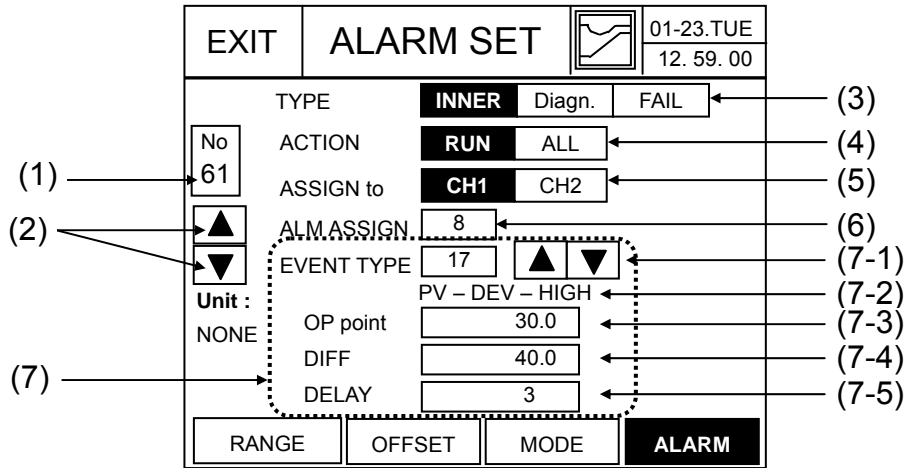

Fig. 3.12.1 ALARM SET screen
(1) EVENT No. Input and Display
(2) Changing EVENT No. for setup.
(3) ALARM TYPE: alarm type selection
- **INNER** : A Digital output operates according to inner data already set without assigning event number. Or it is not necessary to assign digital output and event data in Fix set or Program segment edition screen like PV or Time event. INNER type is same data with event set of Fix set screen and the set part is same with (7) of figure 3.12.1.
- **DIAGNOSIS**: Triggered when in 'PV Input Burn-out' state. Set to MV OUPUT = 0.0%. If the DIAGNOSIS is selected, (7) part of figure 3.12.1 disappears.
- **FAIL**: Triggered when SRAM, Flash Memory error, Program DATA error, initial operation due to Power Failure, Auto-tuning fail, etc. occurs. If the FAIL is selected, (7) part of figure 3.12.1 disappears.
- Whenever Up and Down arrow button is pushed, (7-2) of figure 3.12.1 displays operation description of the event type. So event type for operation can be selected.